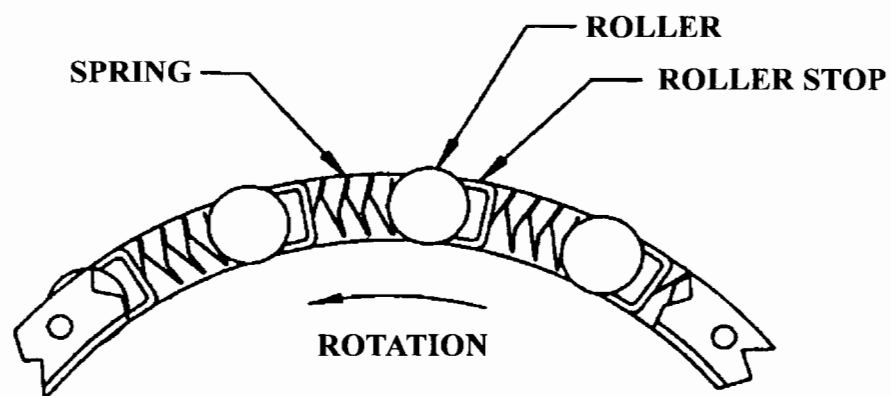

Figure 5
**CORRECTION:** Replace the 1-2 Roller Clutch Assembly and any related parts that may be damaged or broken (See Figure 5).
Before installing into the transaxle, always replace the OEM 1-2 roller clutch springs with Sonnax part number **K84956-SP**, which contains 16 **stronger** accordian springs and is available from your aftermarket parts supplier (See Figure 5).